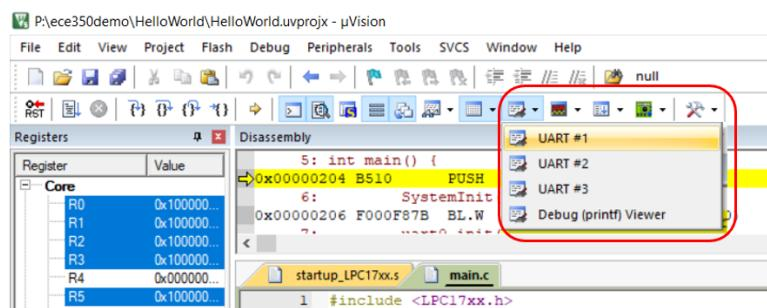
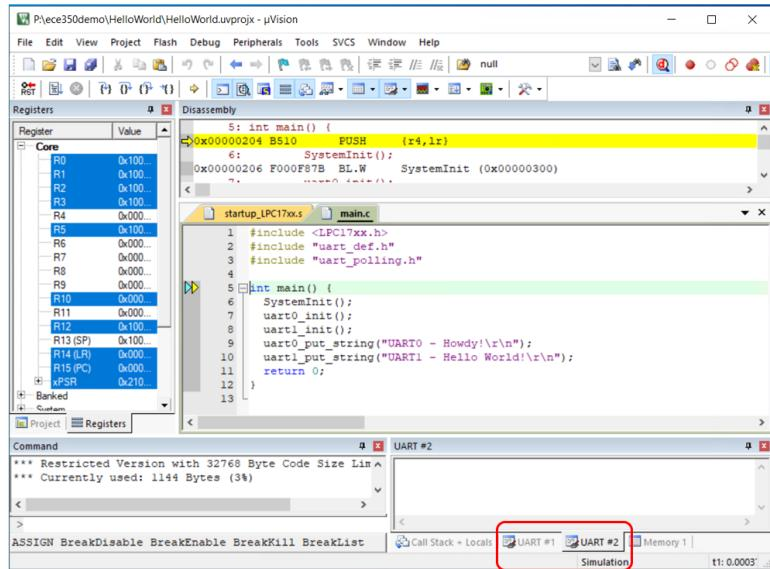

Figure 8.21: Keil IDE: Debugging. Enable Serial Window View.
Figure 8.22: Keil IDE: Debugging. Both UART0 and UART1 views are enabled in simulator.
3. Select UART1 and UART2 (see Figure 8.21) from the serial window drop down list so that they appear in simulator (see Figure 8.22). Note that the hardware UART index starts from 0 and the simulator UART index starts from 1. So the UART1 window in simulator is for the UART0 on the board. The UART2 window in simulator is for the UART1 on the board.